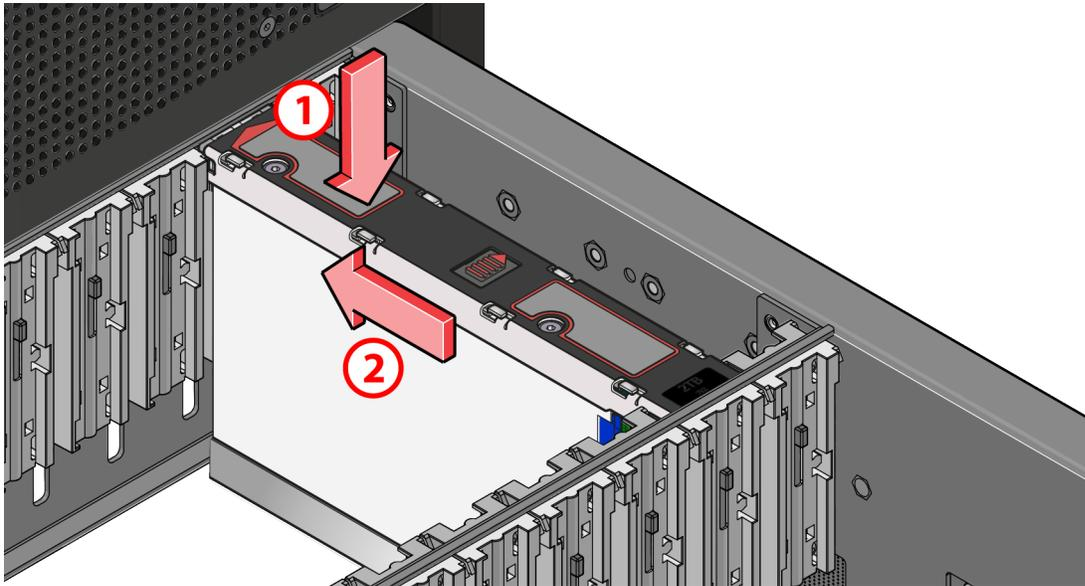

Figure 93. Installing a DDIC Drive
2. Lower the DDIC into the bay, with the drive capacity label facing toward you, as shown in Figure 93 “Installing a DDIC Drive” on page 88
3. Push the DDIC downwards and hold it down while sliding the drive carrier plate to the end in the direction shown in Figure 93 “Installing a DDIC Drive” on page 88. This locks the drive in place.